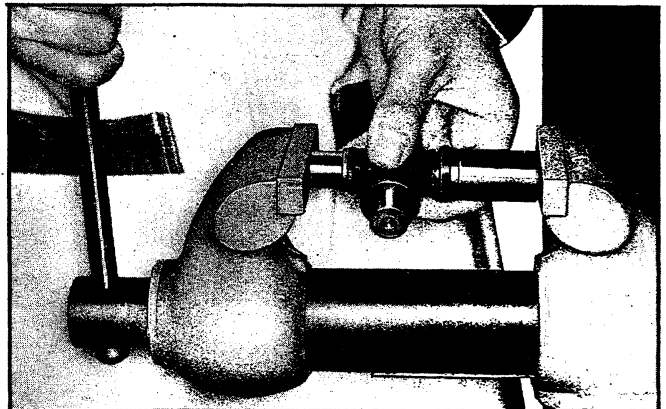

Fig. 90—"U" Joint Trunnion Seal Installation
7. Place new dust seals on trunnion, cavity of seal toward end of trunnion - then position Tool J-21556 over end of trunnion and into cavity portion of seal. Press seal onto trunnion until tool bottoms against trunnion (fig. 90).